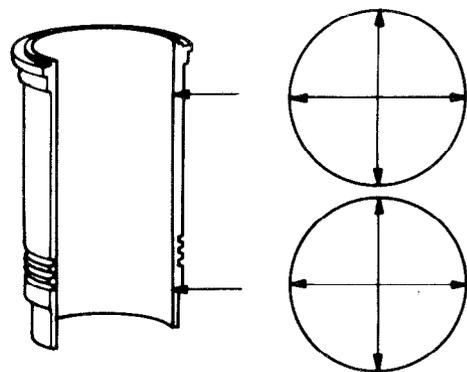

Figure 18 — Measuring Cylinder Liner
- r. Measure and note the inside diameter of the cylinder liner, in four places 90 deg. apart at the top and bottom of the piston travel area, using a suitable inside micrometer or bore gauge (see Fig. 18). The cylinder liner bore should measure 139.694-139.827 mm (5.4998-5.5050 in.). Replace the cylinder liner as necessary (refer to para. 12).